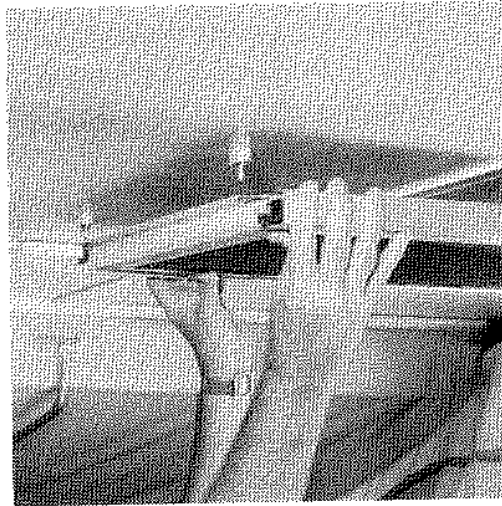

Fig. 6
8. Swing down the double hinged, self-storing screen door. Drop channel of lower edge of screen door over entrance door, guiding locating pins into door jamb extrusion. Fig. 6